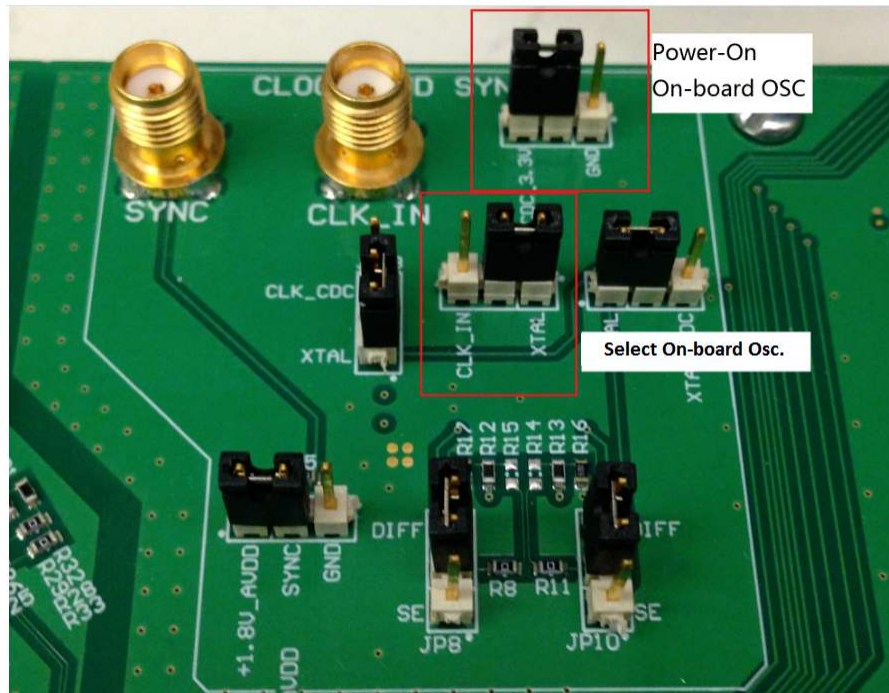
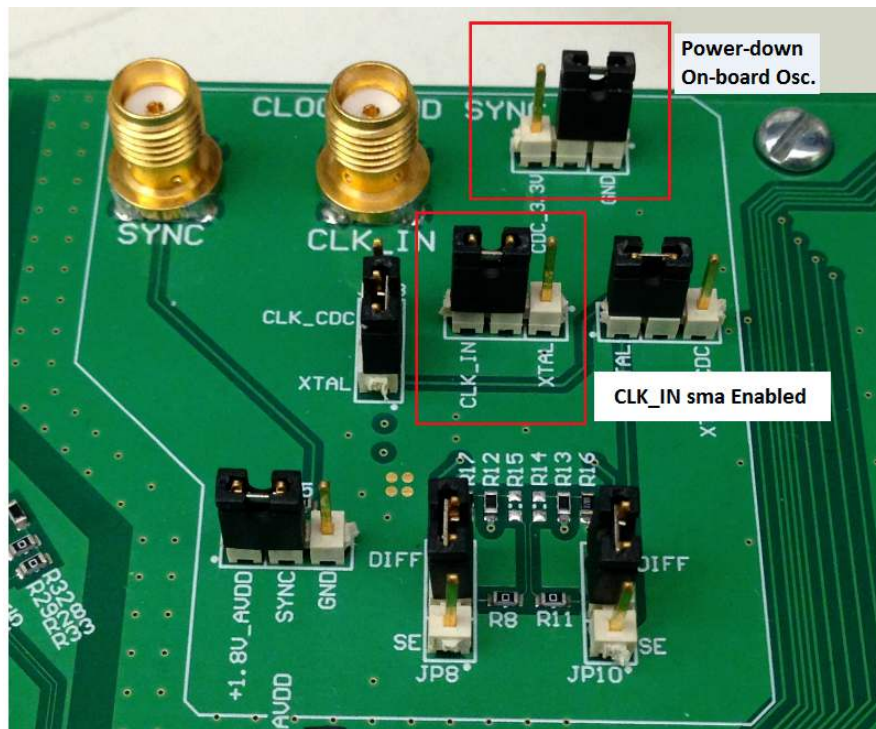

Figure 38. Jumper JP11 and JP9 Positions for Enabled XTAL (default)
Figure 39. Jumper JP11 and JP9 Positions for Disabled XTAL
1. The RAMP test described in Section 4.2 was performed using an 80-MHz on-board crystal oscillator (XTAL) for the sampling clock. This clock cannot be used to measure performance of the device as it is not phase locked to the input signal. The XTAL should be disabled by moving jumper **JP11** from the position labeled **CDC_3.3V** to the position labeled **GND** in the silkscreen. Also, **JP9** must change position from **XTAL** to **CLK_IN** in the silkscreen to enable the SMA **J5 CLK_IN**. Figure 38 and Figure 39 show the jumper positions before and after this change, respectively.